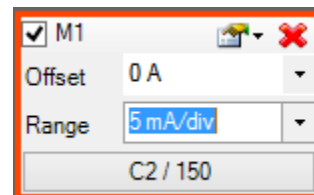

Figure A-6
- Add a custom channel and set it up to display Channel 2 divided by 150 (which will be the current). When you do this you should see that the scale for this custom channel is still in Volts. We need to change that. The display scale window should look like Figure A-6. To change the units to Amps, open the drop-down menu just to the left of the X in the upper right. At the bottom of the next menu you will find a place to change the units to Amps. You will still be able to select the number of Amps per division in the range menu of Figure A-6. Set up the display to show 5mA/div as shown or change it to use as much of the vertical space as possible for your plot. Now you should be displaying the diode current in your plot.